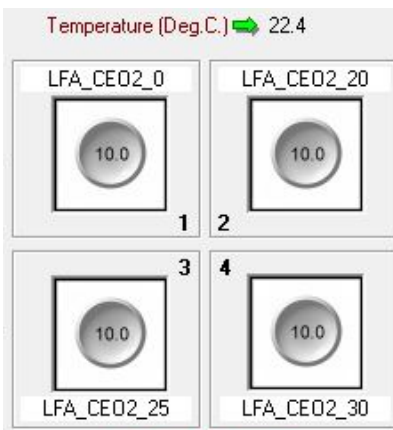

Figure 16. Sample information populated on the main screen.
8. On the main screen, the sample information should be populated after all the sample information has been entered on the sample definition forms (as shown in Figure 16).